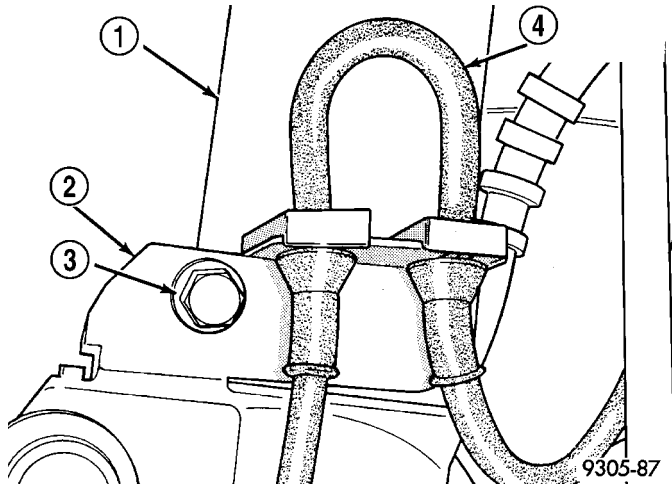

Fig. 3 Speed Sensor Cable Routing Bracket
(1) Raise vehicle. (Refer to LUBRICATION & MAINTENANCE/HOISTING - STANDARD PROCEDURE)
(2) Remove the tire and wheel assembly from the vehicle.
(3) Remove bolt securing the speed sensor cable routing bracket (Fig. 3) to the strut assembly.
CAUTION: When installing the wheel speed sensor cable routing bracket on the strut, the speed sensor cable must be looped upward as shown (Fig. 3). If speed sensor cable is not routed in this direction it may rub, damaging the speed sensor cable.